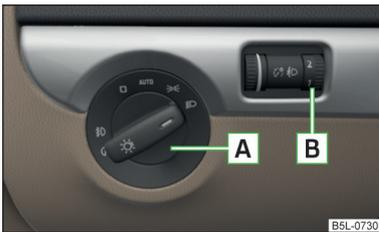

Fig. 45
The arrangement of the controls right-hand drive models may differ from the layout shown in » Fig. 45 on page 64. The symbols which mark the positions of the controls are identical.
Depending on the equipment configuration, the light switch **A** » Fig. 45 can be moved to the following positions.
Turn the dial **B** » Fig. 45 from position **1** to **3** to gradually adjust the headlight range control and shorten the light cone.
- ✓ The light switch is in the position 0 or **AUTO** » Fig. 45 on page 64.